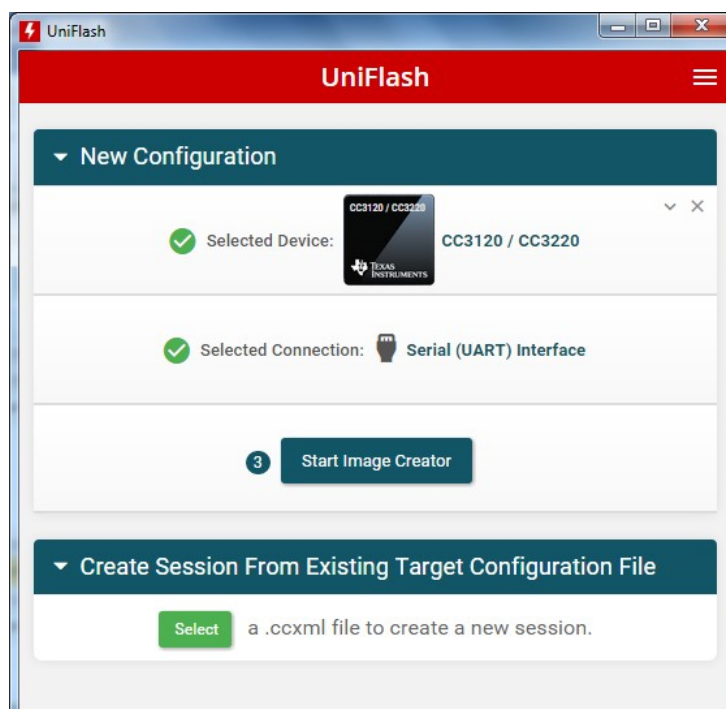

Figure 11. UniFlash – Choose CC3120 / CC3220 Device
4. Choose the CC3120/CC3220 device and then click the Start Image Creator button (see Figure 11).